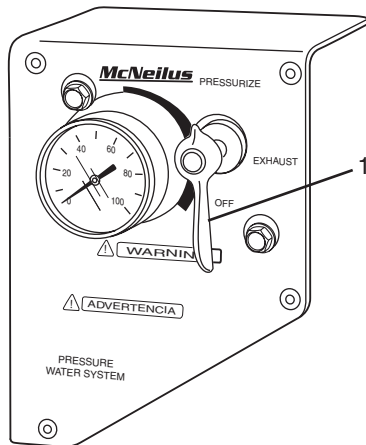

Figure 39
- After pressure in the water tank has been completely exhausted, turn the air pressure control valve to the OFF position (Figure 39, Item 1).